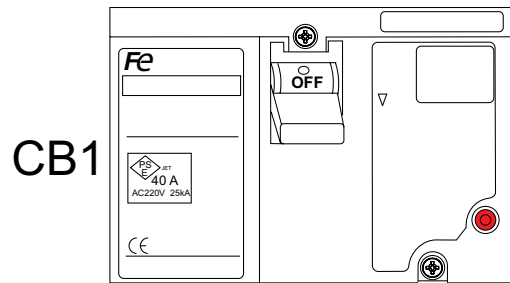

Figure 69. Circuit Breaker OFF (GFCI Test)
7. Also verify that the main circuit breaker (Figure 69) switch trips to the **OFF** position.